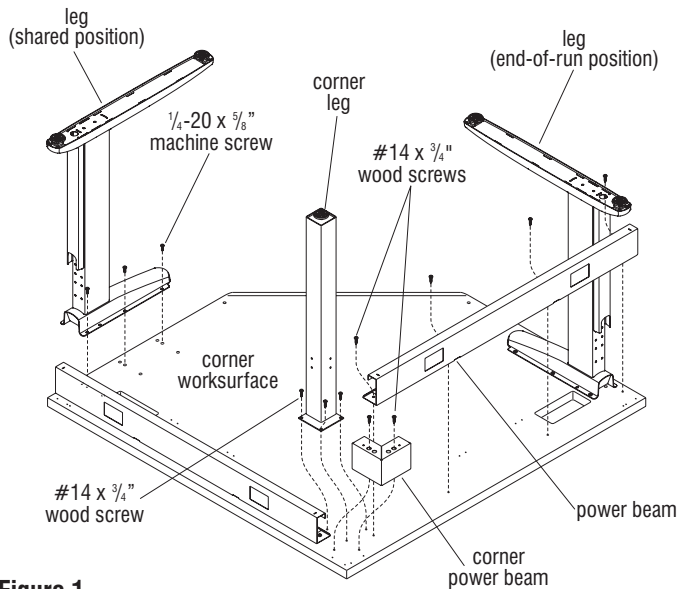

Figure 1
4. Attach legs to underside of worksurface with 1/4-20 x 5/8" machine screws, noting whether the leg is in a shared or end-of-run position. For ease of installation, start all screws before tightening. Any leg can be used for either a shared or end-of-run condition (Figure 1).
5. Attach corner leg to underside of worksurface with three #14 x 3/4" wood screws as illustrated. For ease of installation, start all screws before tightening (Figure 1).